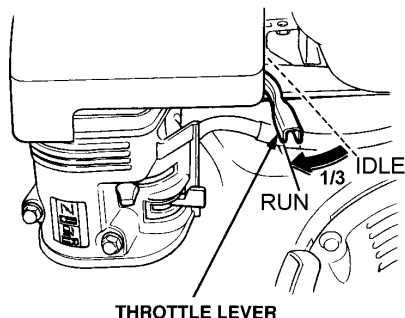

Figure 8. Throttle Lever (1/3 Start Position)
2. Move the throttle lever (See Figure 8) away from the slow position, about 1/3 of the way toward the fast position.